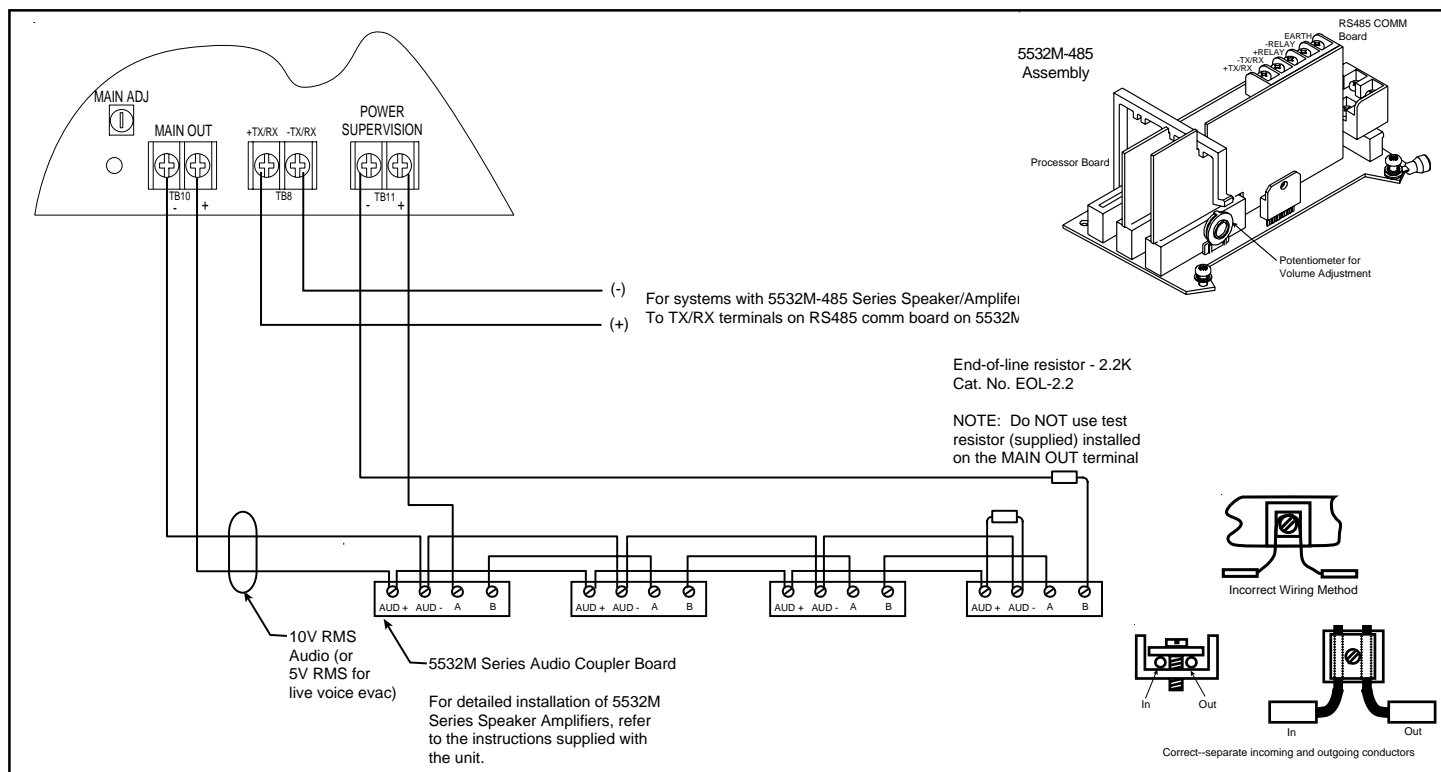

Figure 7. Connecting 5532M Series Speaker/Amplifiers to Audio Main Out
2. Continue to connect remaining 5532M series speaker/amplifiers as shown in Figure 7 ending the loop with a 2.2K end-of-line resistor (Part Number EOL-2.2).